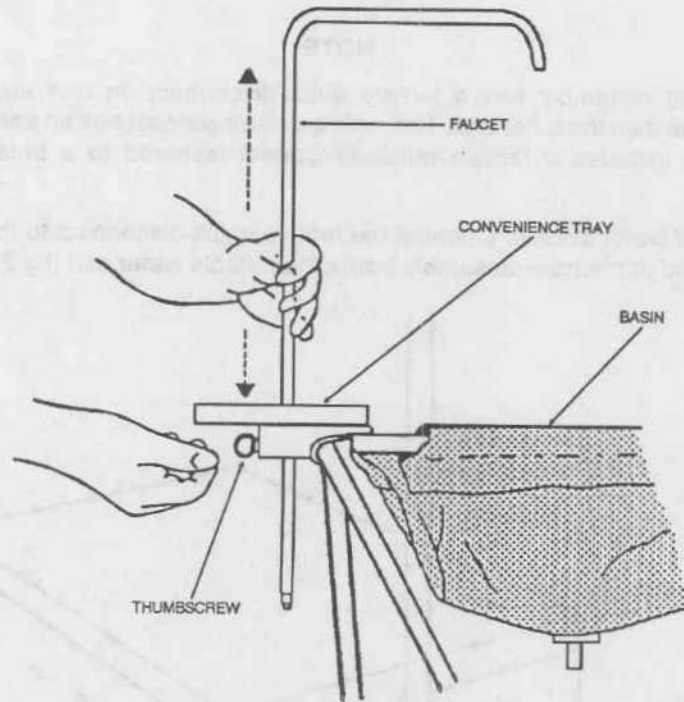

Figure 2-10. Faucet installation.
g. Turn the thumbscrew (located on the underside of the convenience tray) counterclockwise. Place the faucet into the mounting hole (fig 2-10) and adjust the height as desired. Turn the thumbscrew clockwise to hold the faucet stationary.